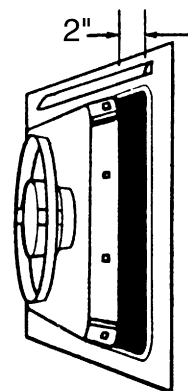

Figure 28. OPEN CHAMBER DOOR APPROXIMATELY 2 INCHES IMMEDIATELY AFTER COMPLETION OF EtO CYCLE
- 1) Open door (approximately two inches) immediately after completion of cycle (Figure 28).